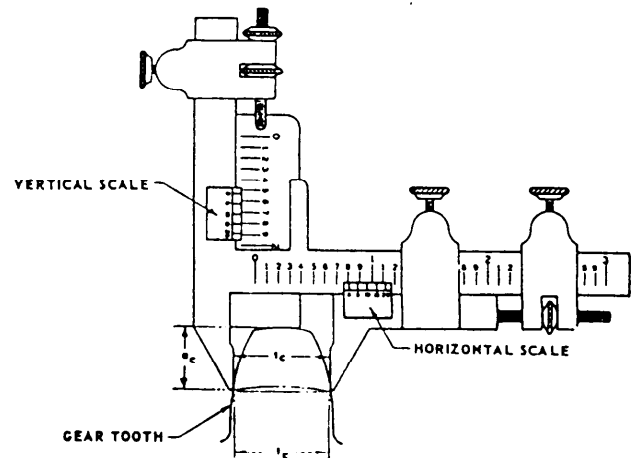

Figure 14-3.—Measuring gear teeth with a vernier caliper.
To check the dimensional accuracy of gear teeth, use a gear tooth vernier caliper (see fig. 14-3). The vertical scale is adjusted to the chordal addendum ( $a_c$ ) and the horizontal scale is used to find the chordal thickness ( $t_c$ ). Before you calculate the chordal addendum, you must determine the addendum (ADD) and circular thickness ( $C_t$ ).
Now set the vertical scale of the gear tooth vernier caliper to 0.128 inch. Adjust the caliper so the jaws touch each side of the tooth as shown in figure 14-3. If the reading on the horizontal scale is 0.1962 inch, the tooth has correct dimensions; if the dimension is greater, the whole depth (WD) is too shallow; if the reading is less, the whole depth (WD) is too deep.